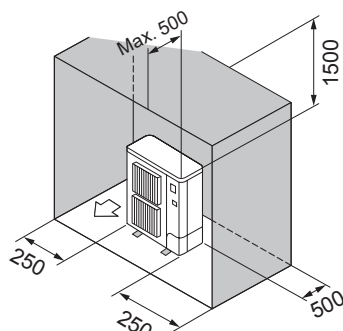

Fig. 2-12
- (6) Obstacles at rear, sides, and above only (Fig. 2-12)